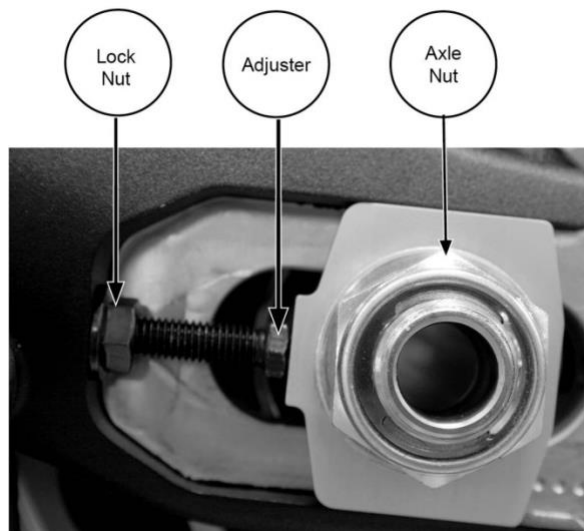

Figure 47: Chain tension adjusters
1. See figure 47. Loosen rear axle three turns.
2. See figure 47. Loosen lock nut.
5. Measure axle adjuster positions on both sides of the swingarm to ensure they are even on each side of the swingarm. This check will ensure rear sprocket is aligned with front sprocket. See figure 47.